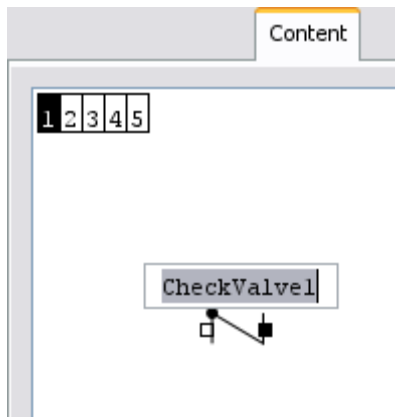
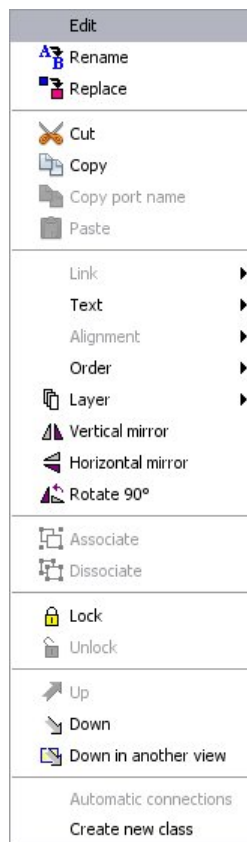

Figure 31: Renaming an instance in content frame
Figure 32: Content contextual menu
- Double-click on the model instance to rename (Figure 31: Renaming an instance in content frame) ; enter new name and press enter
- Right click on the model instance to rename; the Figure 32: Content contextual menu opens. Click on “Rename” item (Figure 31: Renaming an instance in content frame) ; enter new name and press enter.
Use the following commands of the Figure 32: Content contextual menu or the corresponding icons of the Design toolbar to rotate the graphical representation of a model instance:
- Click on the “Replace” item of Figure 32: Content contextual menu